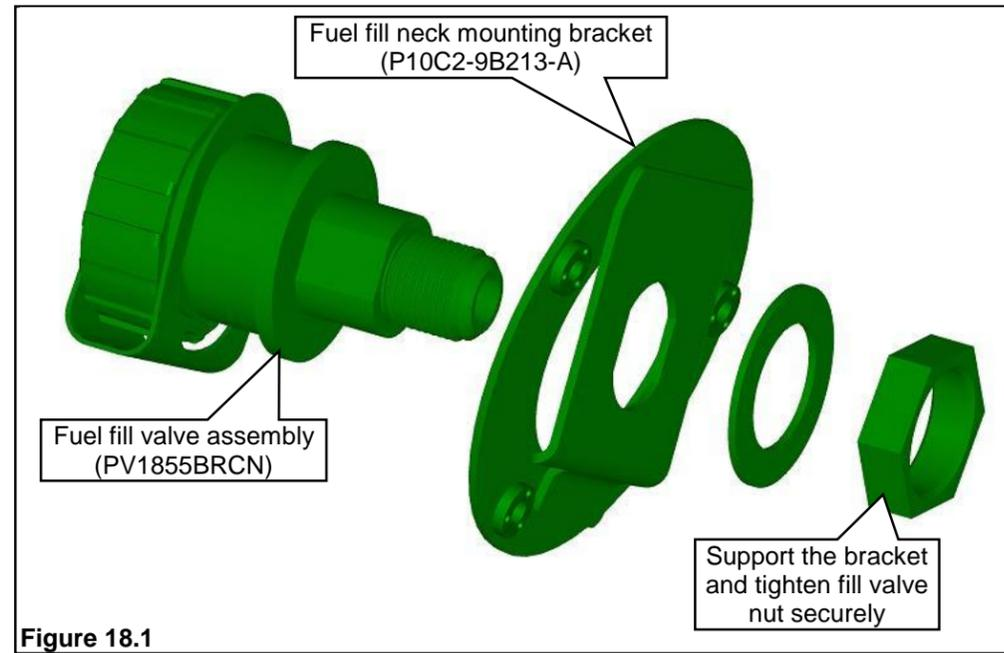

Figure 18.1
1. Remove nut and washer from fuel fill valve and assemble valve to fuel fill bracket. Support fill valve and bracket assembly and tighten nut securely. **Figure 18.1.** These parts are in hardware kit P11GD-FILLKIT-A and P12EB-FILLKIT-A